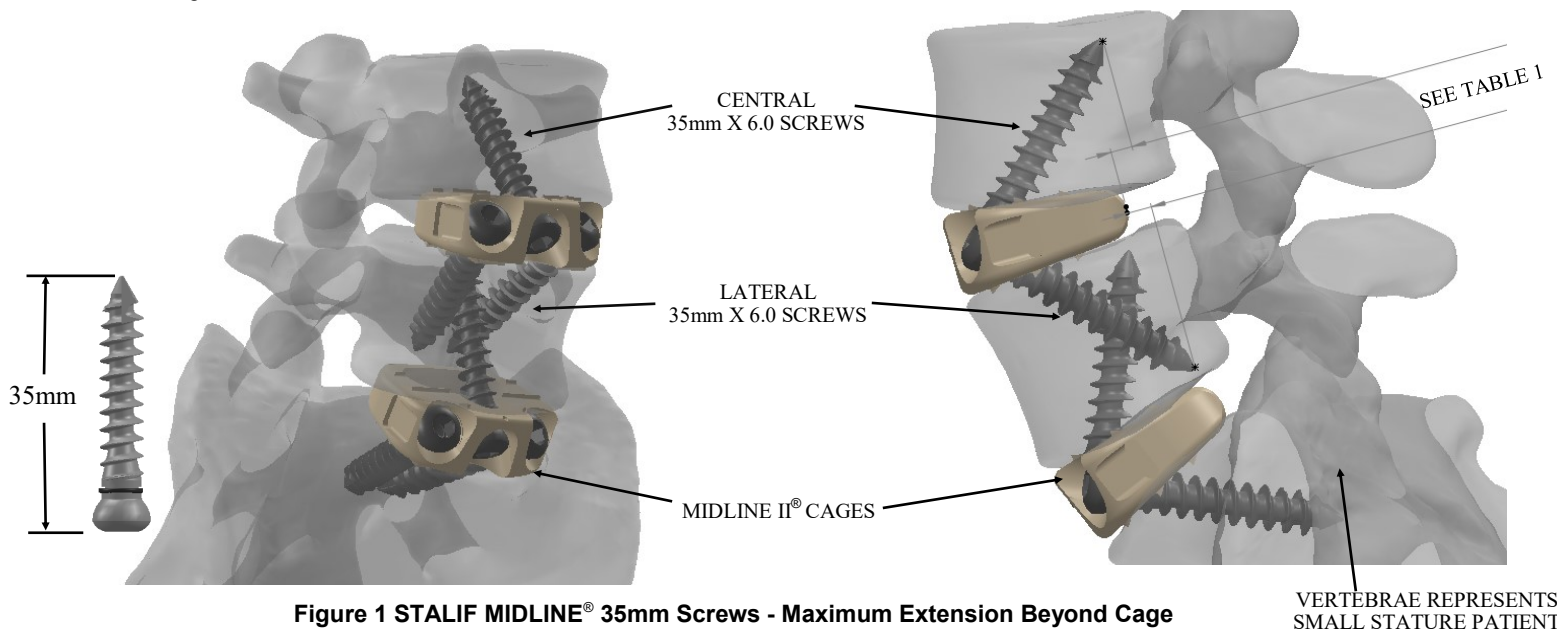

Figure 1 STALIF MIDLINE® 35mm Screws - Maximum Extension Beyond Cage
- MIDLINE II®, MIDLINE II-Ti®, and STALIF M FLX™ cages are recommended for use with 25mm or 30mm long screws. If patient pathology requires 35mm screws, use imaging to ensure unicortical fixation occurs only. STALIF MIDLINE® 35mm screws can extend beyond the back wall of the cage to a maximum as shown in Figure 1. STALIF MIDLINE® 35mm screws must not be used with 30mm MIDLINE II®, MIDLINE II-Ti®, or STALIF M FLX™ cages. Caution should be exercised when using STALIF MIDLINE® 35mm screws with 33mm MIDLINE II®, MIDLINE II-Ti®, or STALIF M FLX™ cages.